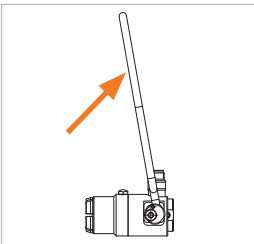

Figure 12
- ▶ Fold the actuation unit (Pos. 1) upwards as far as it will go (Figure 12). The clamping jaws open.